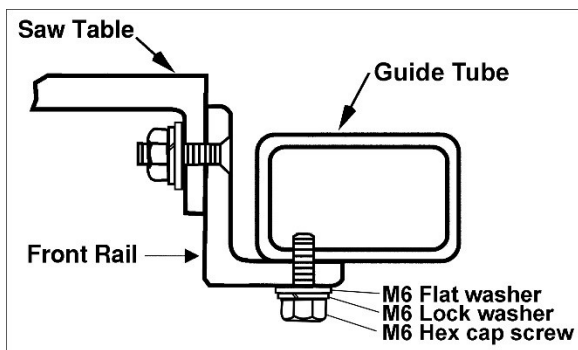

Figure 6-13
2. Fasten guide tube to rail from beneath, with eight M6x20 hex cap screws and lock washers (Figure 6-13). *Finger-tighten only.*